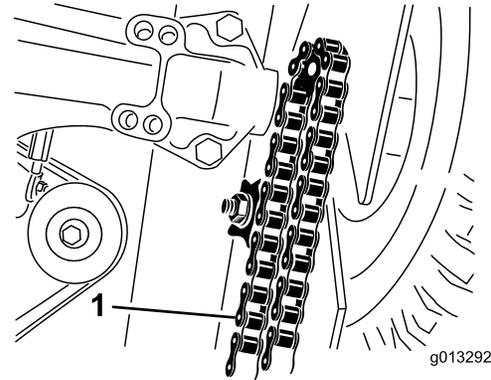

Figure 18
2. Raise the front of the machine to gain access to the chains (Figure 18) and block it in place.